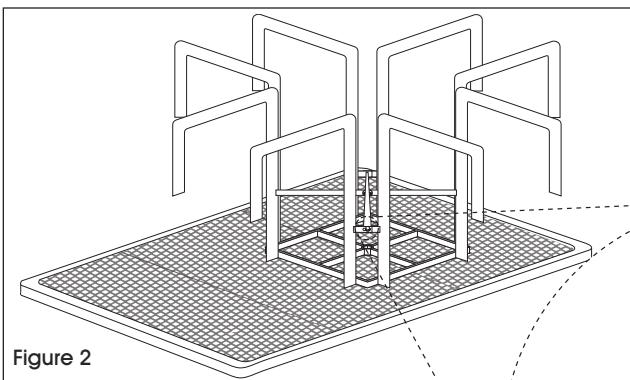

Figure 2
3. Insert the cross brace with the umbrella holder facing upward and loosely bolt to the corresponding corners using one bolt, one washer and one nut. (See Figure 2)